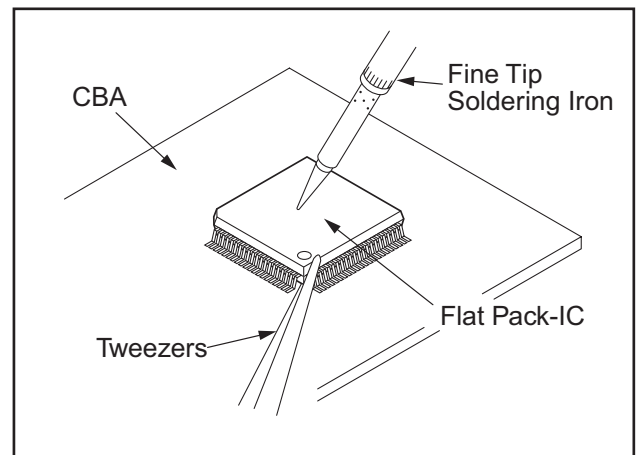

Fig.2-6
- (2) Remove the flat pack-IC with tweezers while applying the hot air.
(3) Bottom of the flat pack-IC is fixed with glue to the PWB; when removing entire flat pack-IC, first apply soldering iron to center of the flat pack-IC and heat up. Then remove (glue will be melted). (Fig.2-6)
(4) Release the flat pack-IC from the PWB using tweezers. (Fig.2-6)
- (3) Bottom of the flat pack-IC is fixed with glue to the PWB; when removing entire flat pack-IC, first apply soldering iron to center of the flat pack-IC and heat up. Then remove (glue will be melted). (Fig.2-6)
- (4) Release the flat pack-IC from the PWB using tweezers. (Fig.2-6)
- (4) Bottom of the flat pack-IC is fixed with glue to the PWB; when removing entire flat pack-IC, first apply soldering iron to center of the flat pack-IC and heat up. Then remove (glue will be melted). (Fig.2-6)
- (5) Release the flat pack-IC from the PWB using tweezers. (Fig.2-6)